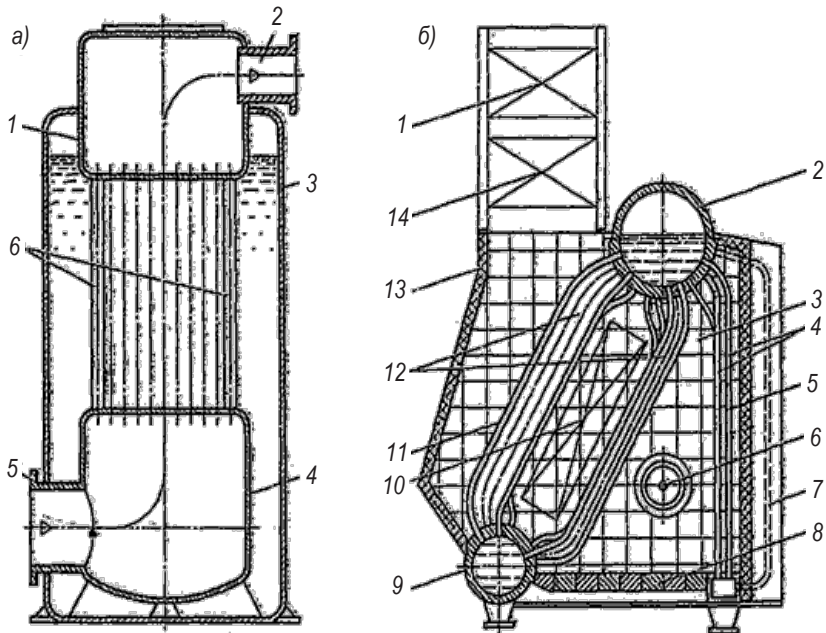

Fig. 9. Gas-fired (a) and water-fired (b) boilers
Vertical gas-tube boiler (Fig. 9 a). The cylindrical body (3) of the boiler houses the furnace (4) and smoke chambers (1), which are connected by straight pipes (6). Fuel and air are supplied to the furnace from the fuel injection unit (not shown in Fig. 9 a) through pipe (5), and the combustion products are removed through pipe (2) into the chimney.
Water-tube boiler (Fig. 9 b). The boiler consists of an upper steam collector (2) and a lower water collector (9), connected by pipes (12). The bundle of pipes (4) located on the side wall is called a side screen. The pipes (5) of the second row of the screen, shielded by the pipes of the first row, as well as the pipes (7) located outside the furnace or in special enclosures, are called downcomer pipes. In some boilers, the pipes (11), which are furthest from the furnace, are also called downcomer pipes. All other pipes are riser pipes.
Depending on their location, different heating surfaces of the boiler receive different amounts of heat, which largely determines the character of heat exchange. Fig. 9 b also schematically shows the economizer (1), air heater (14), boiler cladding (13), boiler nozzle (6), brickwork (3), furnace bottom (8), and steam superheater (10).